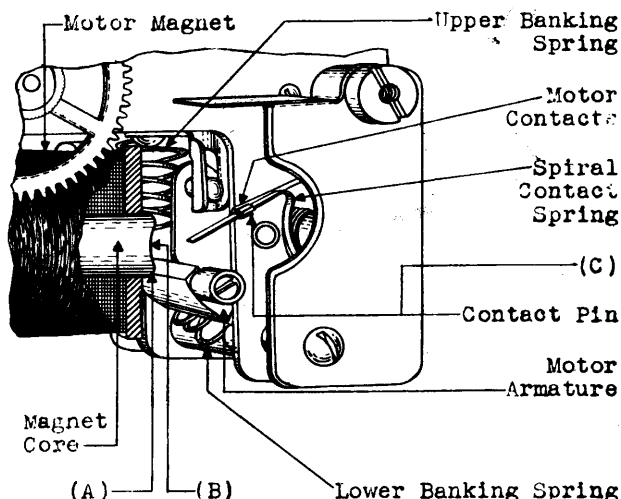

Fig. 5 - Winding Motor
(a) Fig. 5 (A) - When the armature is in the normal position, the front edge of the armature shall be approximately in line with the lower edge of the magnet core. Gauge by eye.
***2.16 Spiral Contact Spring Position - Fig. 5 (B):** When the armature is in the normal position the straight portion of the spiral contact spring shall point to approximately the center of the motor magnet core. Gauge by eye.
***2.17 Contact Alignment - Fig. 5 (C):** The contact pin shall approximately center on the contacting portion of the spiral contact spring. Gauge by eye.